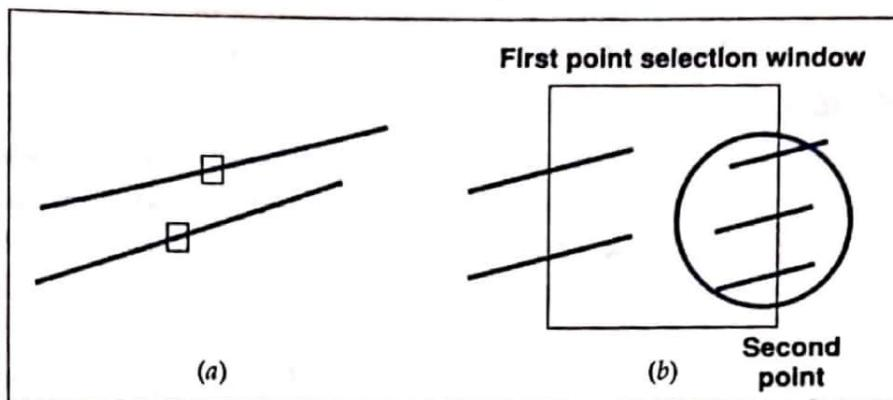

Fig. 19.23 Different methods to erase a group of lines
- (v) Press the right mouse button or enter to complete the erase command. See Fig. 19.23.